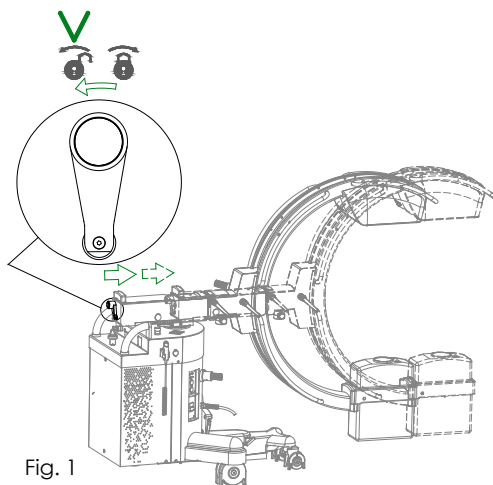

Fig. 1
- Displace the longitudinal carriage to the front: see fig.1 (for locking of the handle, see paragraph 1.3.1, Part 2 of the User Manual).